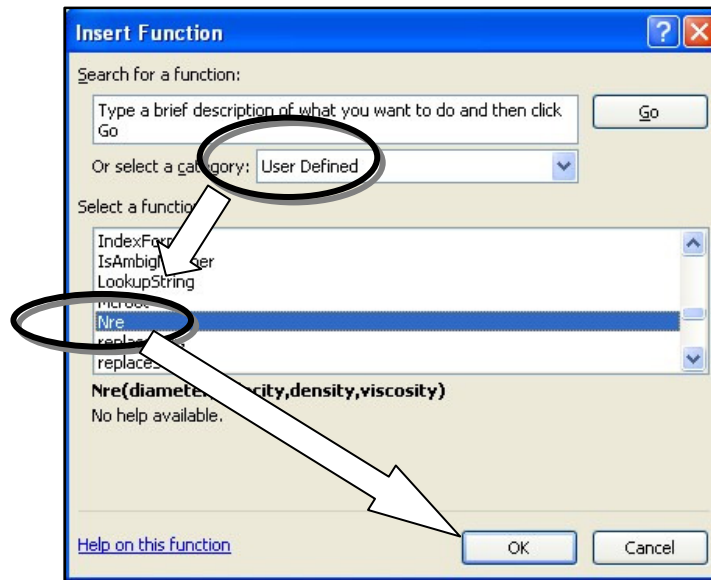

Figure 2. Insert function window.
- b. A window will open. Select **[User defined]** category, then scroll and select **Nre**, and click **[OK]** as shown in Figure 2.